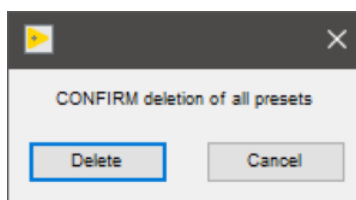

Figure 19- Clear Presets Confirmation Window
- User will be asked to confirm the deletion (**Figure 19**).